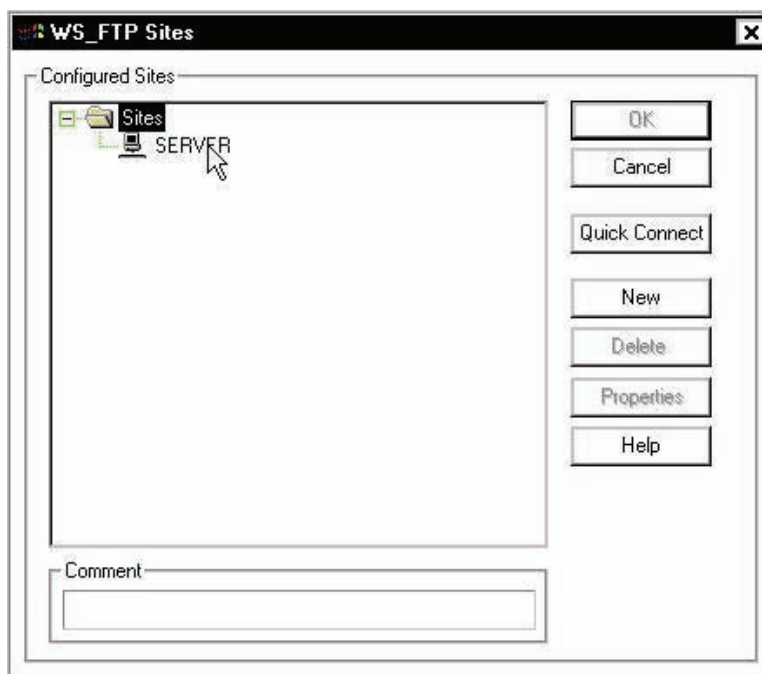

Figure 34. Selecting the TEOC server site from the WS_FTP sites list.
- Select SERVER from the WS_FTP Sites window (Figure 34).